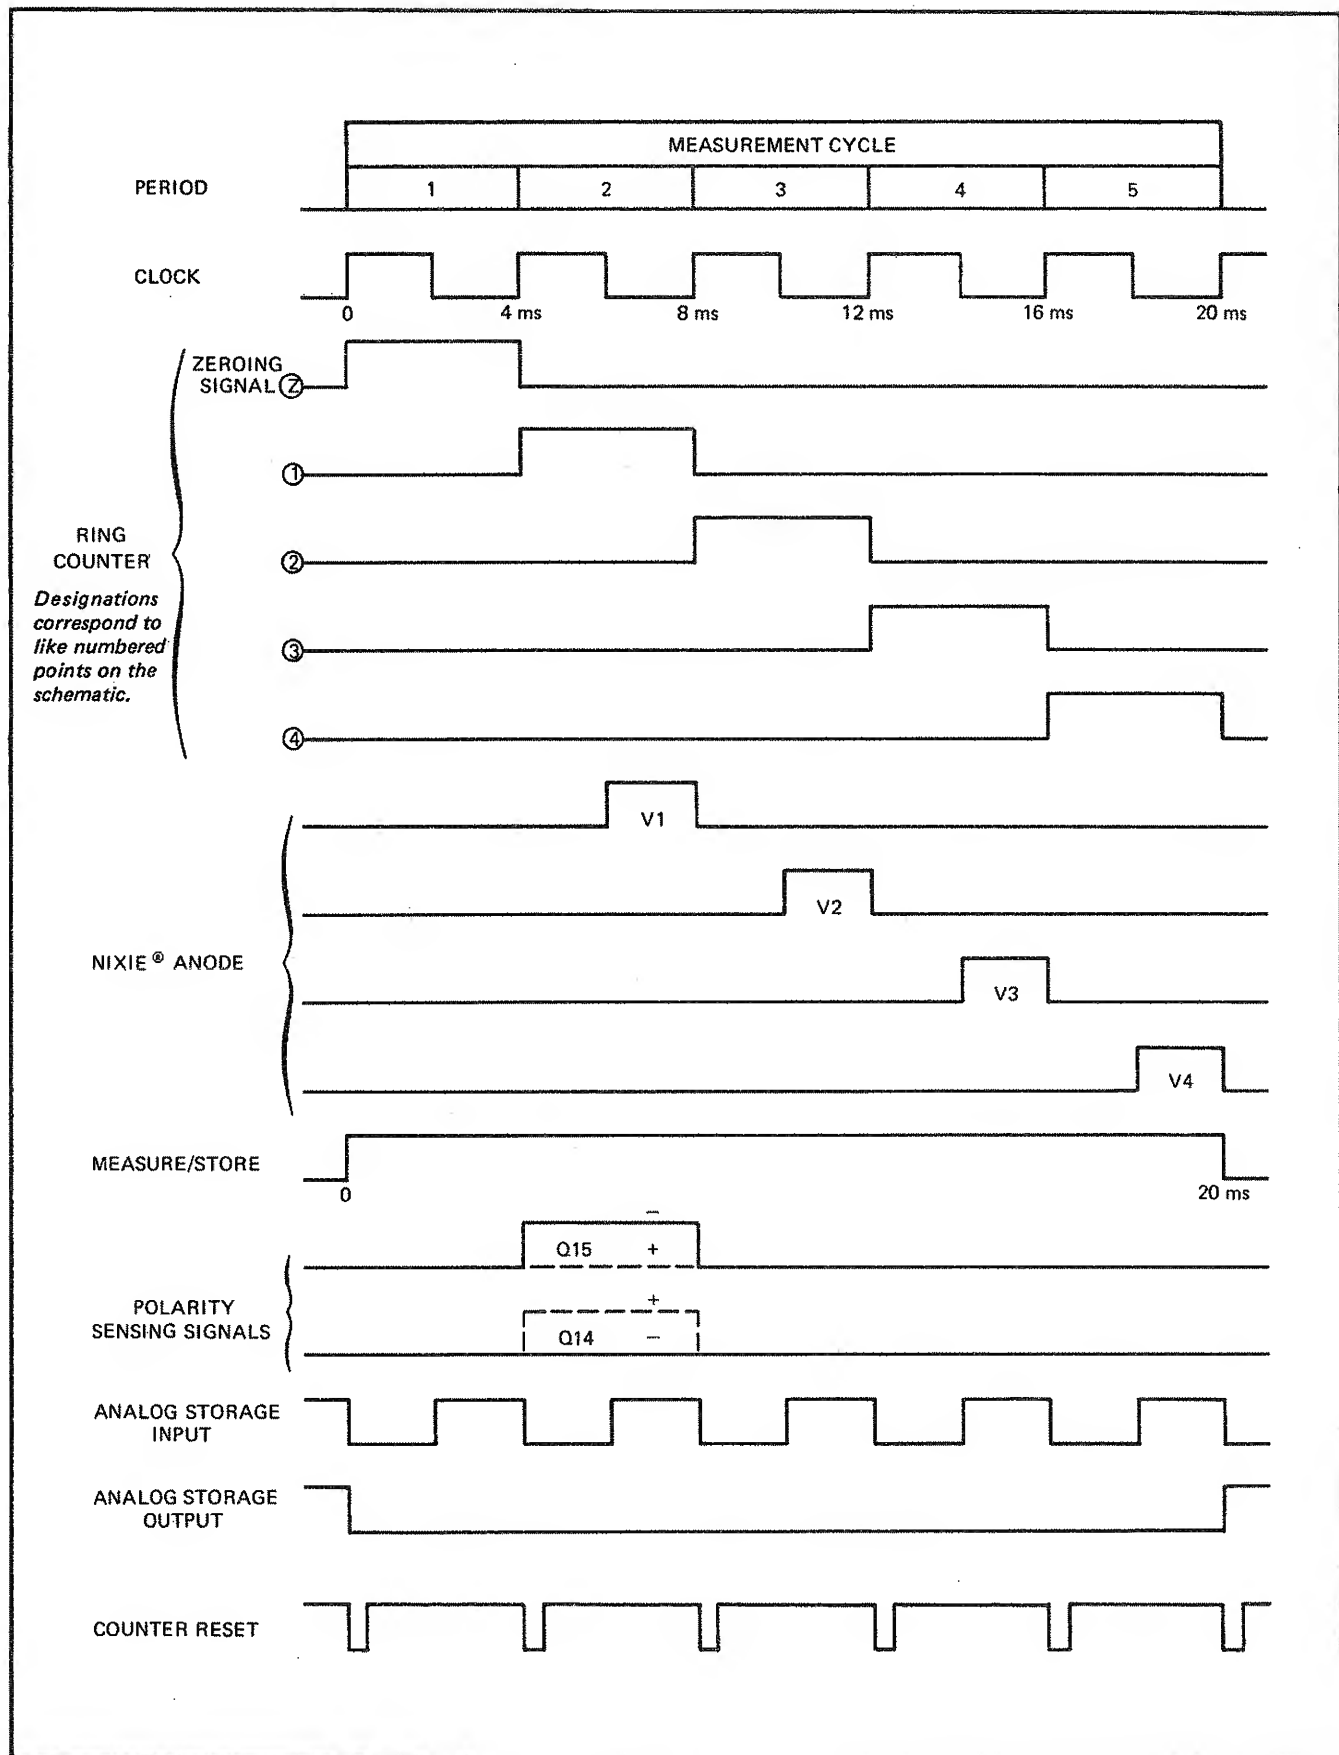

Figure 3-12. TIMING DIAGRAM
**3-32. CLOCK.** The clock signal, which is the master timing signal for the A/D converter, is taken from several windings on the inverter transformer, T102. Two separate clock signals are taken from the primary of T102; one is a gate control signal for the analog storage circuit and the sample and hold circuit, and the other is used to strobe the Nixies.® One phase of the clock signal at the secondary of T102 is used to synchronize the ring counter, while both phases are applied to NAND gate A3A to provide a delayed reset pulse for counter A4. The timing diagram for the A/D converter is shown in Figure 3-12. The first period of the measurement cycle, as shown in the diagram, is set aside for removal of the zero offset of the A/D converter amplifier.